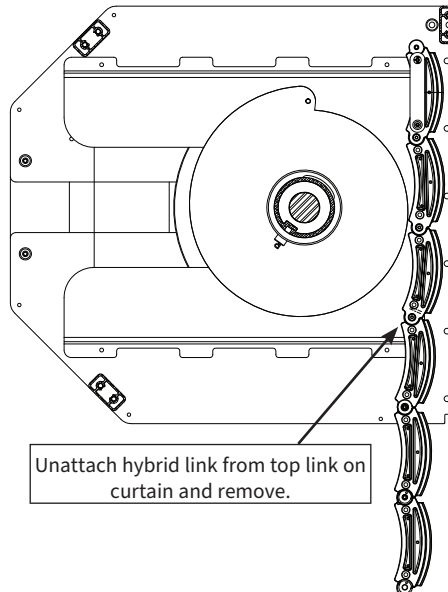

Figure 11: Remove Hybrid Link Assembly From Curtain
- 1 Remove the hybrid link assembly, 24B0935NN (Figure 11), from the curtain assembly.